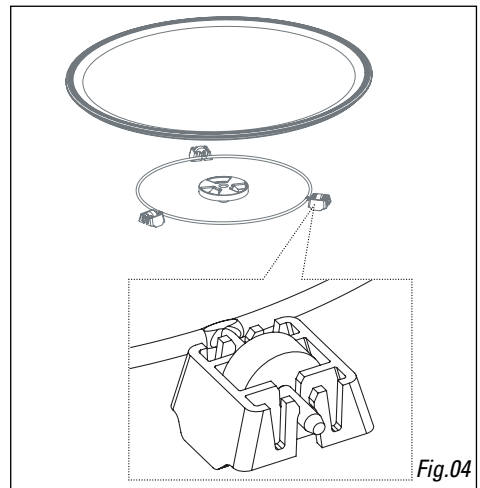

Fig.04
- **The driver:** causes the glass turntable to turn (Fig.04).
- **The base rollers:** Rollers must be positioned in the right direction (Fig.04). If they are not rotating properly, check for foreign bodies under the rollers.